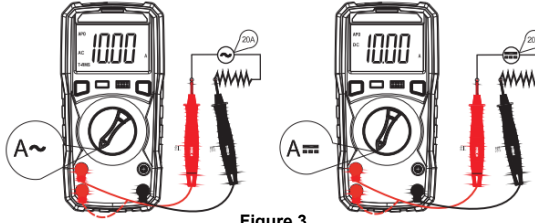

Figure 3
**(2). AC/DC current measurement (Figure 3)**